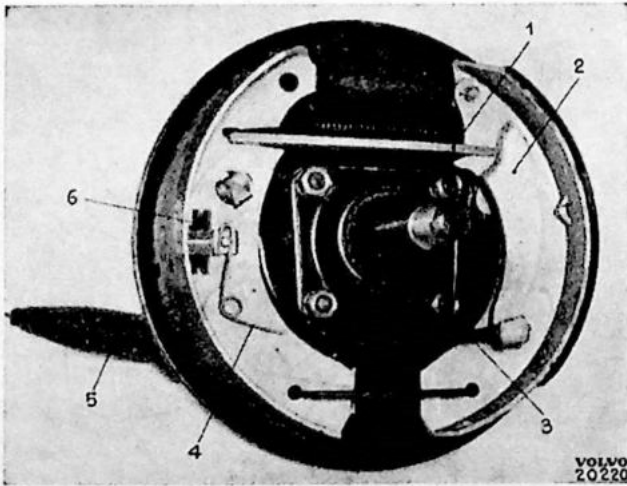

Fig. 13.
4. Disconnect the cable (3, Fig. 13) from the lever (2) on the rear brake shoe.
5. Remove the rubber cover (5) from the pipe flange on the backing plate.
3. Disconnect the return spring (2) by using a brake spring plier (1) of the larger type.
4. Remove the lock for the eccentric (3) and lift the shoes off the backing plate. When disassembling the rear wheel brakes first move the lever (2, Fig. 13) forward and disconnect the cable (3).